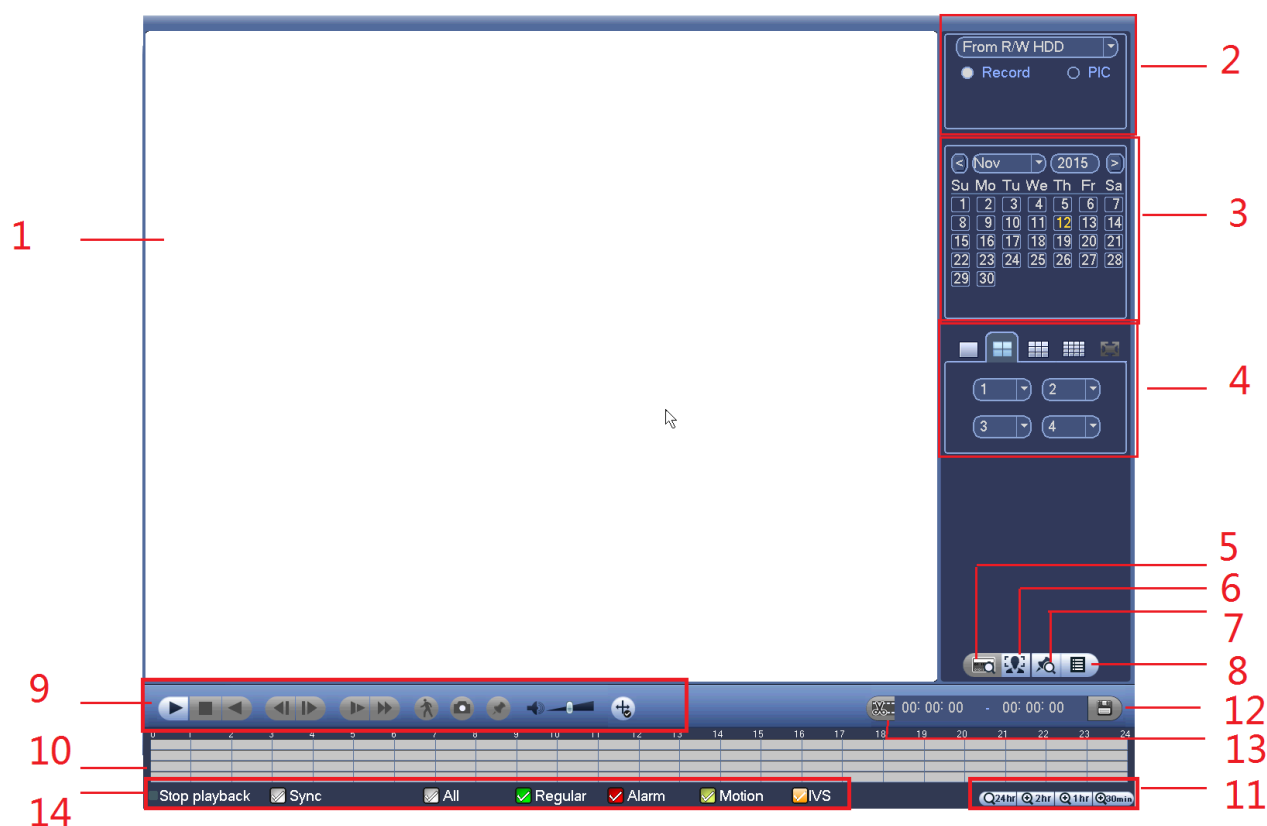
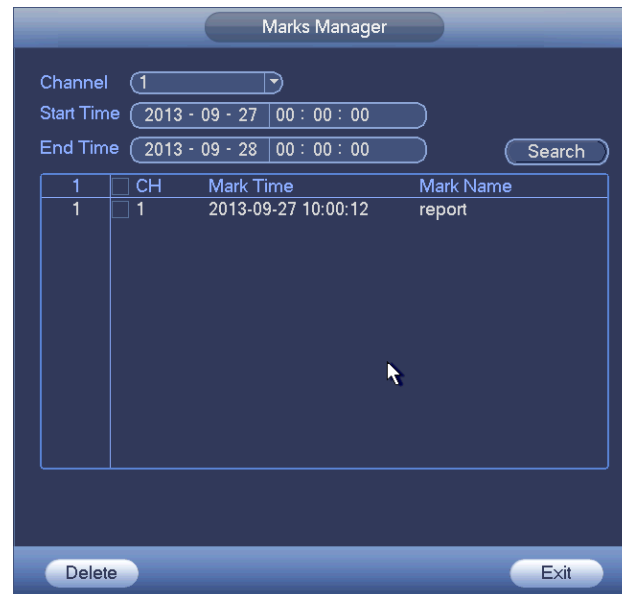

Figure 4-79
Figure 4-83
From Main menu->Search, or on the preview interface right click mouse and then select search item, you can go to the following interface. See Figure 4-79.
Please make sure your purchased device support this function. You can use this function only if you can see the mark playback icon on the Search interface (Figure 4-79).
During 1-window playback mode, click mark file list button  in Figure 4-79, you can go to mark file list interface. Double click one mark file, you can begin playback from the mark time.
Click the mark manager button  on the Search interface (Figure 4-79); you can go to Mark Manager interface. See Figure 4-83. System can manage all the record mark information of current channel by default. You can view all mark information of current channel by time.
- From Main menu->Search, or on the preview interface right click mouse, you can go to Figure 4-79.